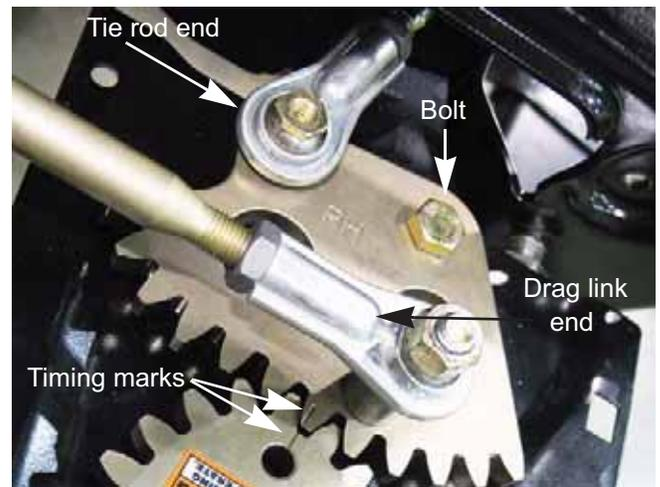

Figure 6A.88
2. Remove and discard the nut holding the tie rod spherical rod ends to the inboard steering gear using two 9/16" wrenches (one of them should be a slim-line wrench). See Figure 6A.88.
3. Remove and discard the nut holding the drag link to the inboard steering gear using two 9/16" wrenches (one of them should be a slim-line wrench). See Figure 6A.88.